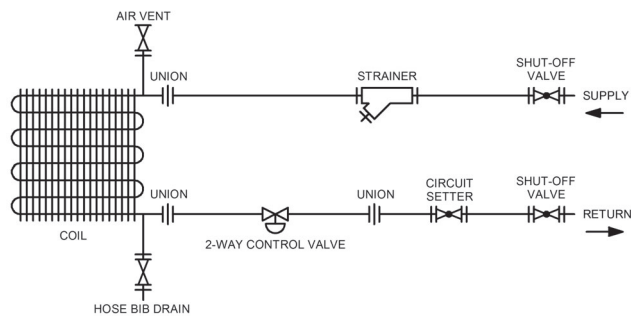

Fig. 8 — Typical 2-way Piping Installation
2. Install shut-off valves in lines to and from each coil to allow maintenance or replacement of unit without shutting down and draining entire system (see Fig. 8 and 9).